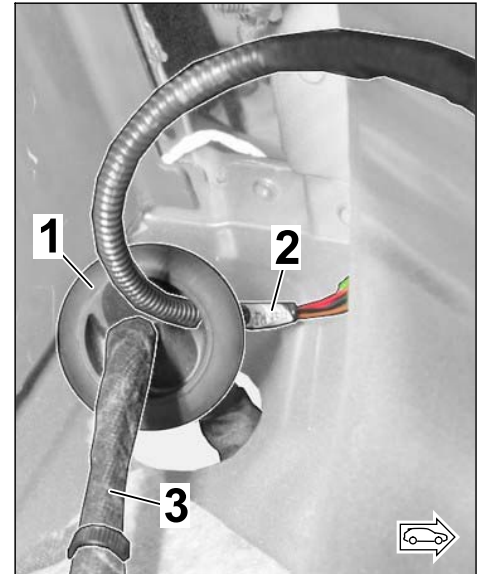

Figure 20
- Guide the new branch for the exhaust flap (left/right) through the neck of the grommet (see also 3.3.6) **OR** through another hole in the grommet collar (\Rightarrow *Figure 20*) **CAREFULLY** to the underside of the grommet.